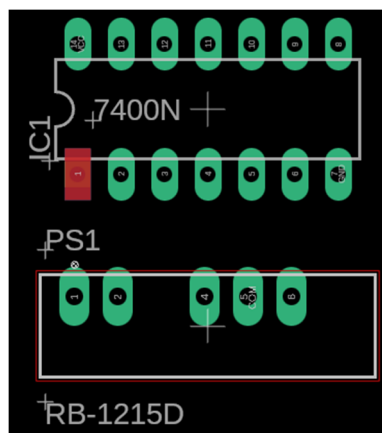

Figure 34 - Library swapped.
16. Change the coordinate of this line as Figure 34 below.